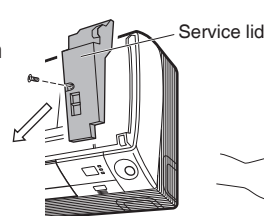

Fig. 2
- 3) Remove the service lid screw (1 screw) and remove service lid. (See Fig. 2)